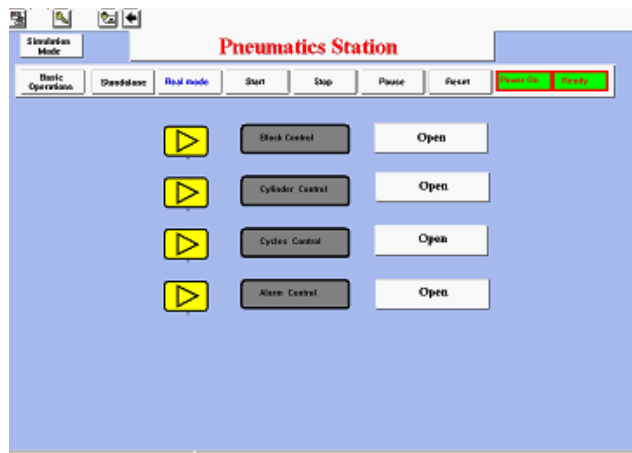

Figure 9-41: Pneumatics Station
8. Click **Restart**. Pneumatics Station window (shown in Figure 9-41: Pneumatics Station) is displayed in the background. Click **Close** to close the Vuniq Application Manager window.